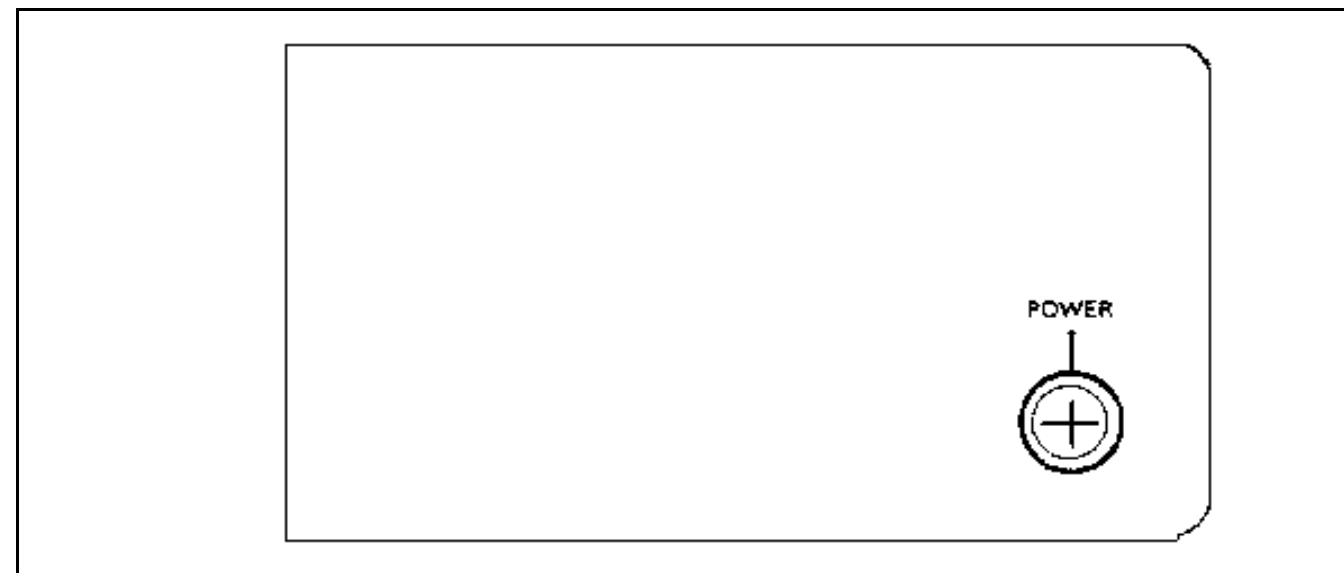

Figure 2 - Control Panel with Single LED Power Indicator
1. **Standard Desk Top Station, without Options** - The standard station has only a single red LED to indicate when the power supply is ON (see Figure 2).